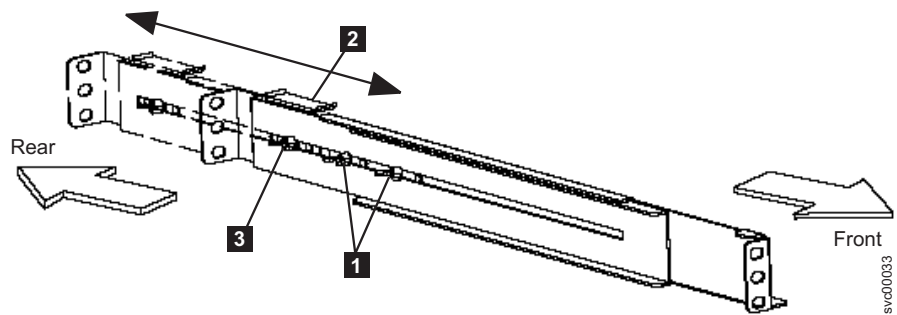

Figure 132. Adjusting the rail depth on the 2145 UPS-1U
3. Loosen the assembly wing nuts (see **1** in Figure 132) on both rail assemblies and adjust the rail size to the depth of your rack.
4. Position the rear, hold-down bracket **2** towards the end of the rail assemblies and tighten the wing nut **3**. See Figure 132.